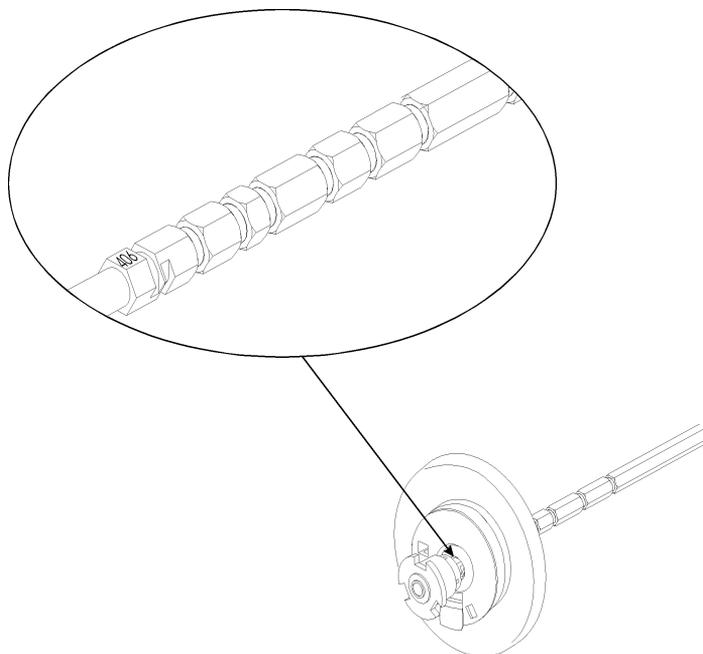

Fig.4
*When loading 406 mm media width, remove the left end bell from the shaft and position it so that the thumb release button is opposite from the engraved 406 mm indicator on the spool assembly shaft.(Ref: Fig. 4)